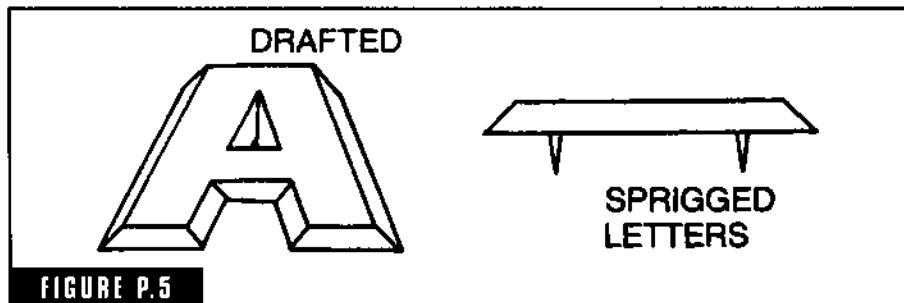

FIGURE P.5
**pattern letters** White metal, brass, or aluminum letters and figures for attaching to wood or metal patterns for identification, name, directions, etc. (Fig. P-5). The letters can be purchased in a wide variety of letter styles and sizes from as small as  $\frac{3}{8}$  inch to 4 inches in size. They can be plain back, with sprigs, drilled, or with reverse letters for making branding irons. They are used widely to make grave markers, plaques, signs, etc.